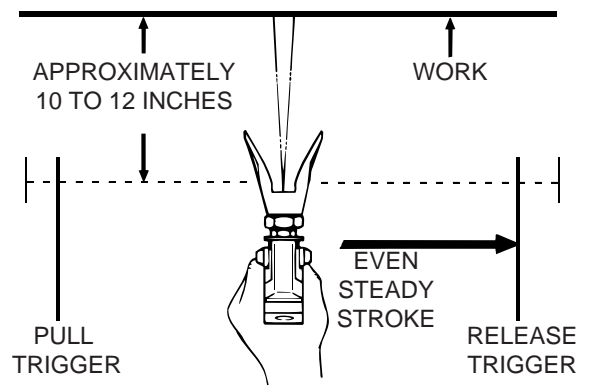

Figure 11 -Proper Way to Trigger Spray Gun.
- The spray gun should be triggered (turned off and on) on each stroke. This will save paint and avoid paint buildup at the end of the stroke. However, do not trigger during the middle of a stroke. This will result in an uneven spray and splotchy work. See Figure 11 for proper triggering on a left-to-right stroke. Reverse for a right-to-left stroke.
- Move the spray gun at a rate of speed that is comfortable for you. If you have to move your arm **too fast** in order to prevent excessive paint buildup, either (1) lower the pressure by turning the pressure control knob counter-clockwise, or (2) use a spray tip with a smaller hole. If you have to move your arm too slow in order to get a good coating, either (1) raise the pressure by turning the pressure control knob clockwise, or (2) use a spray tip with a larger hole. You should always keep the spray gun moving when making a stroke. Slowing down in one place will cause sags or runs.